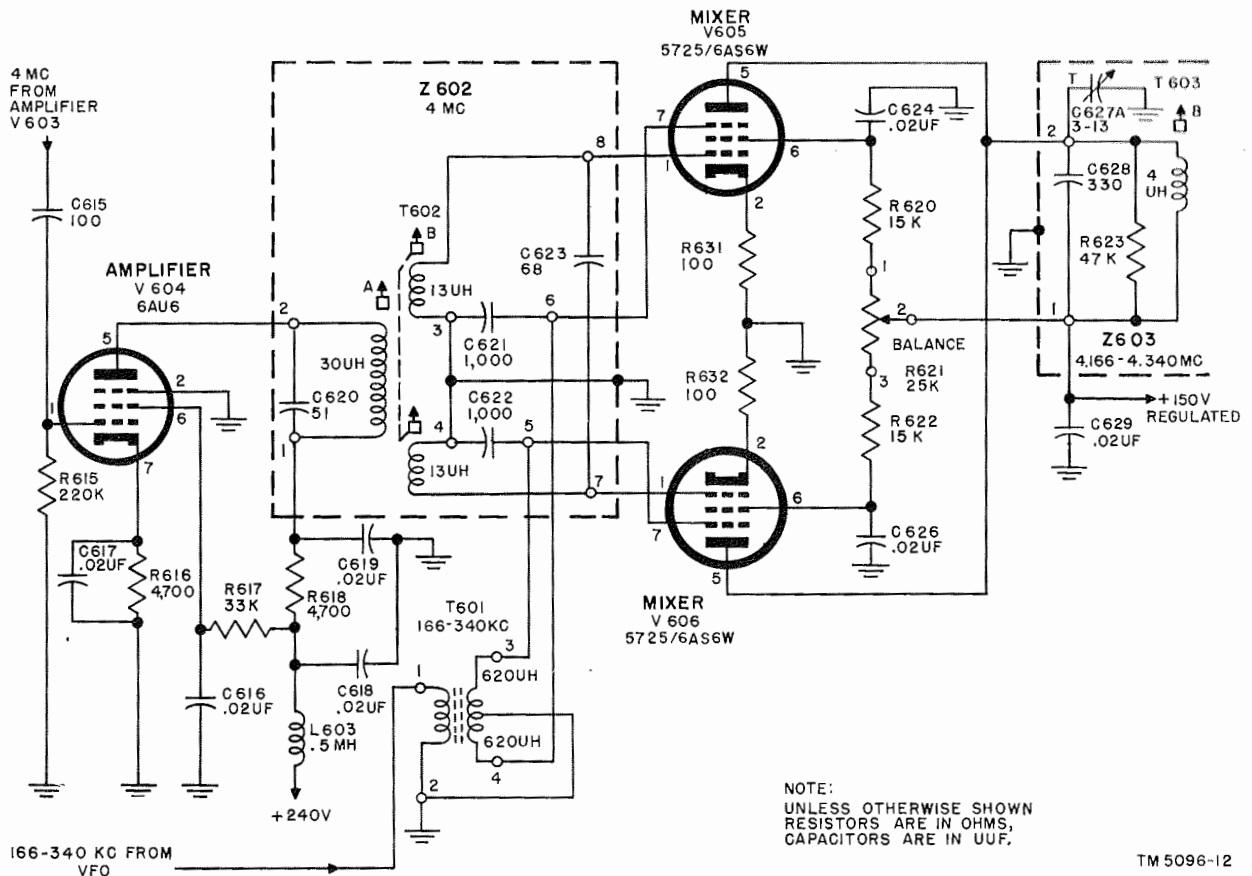
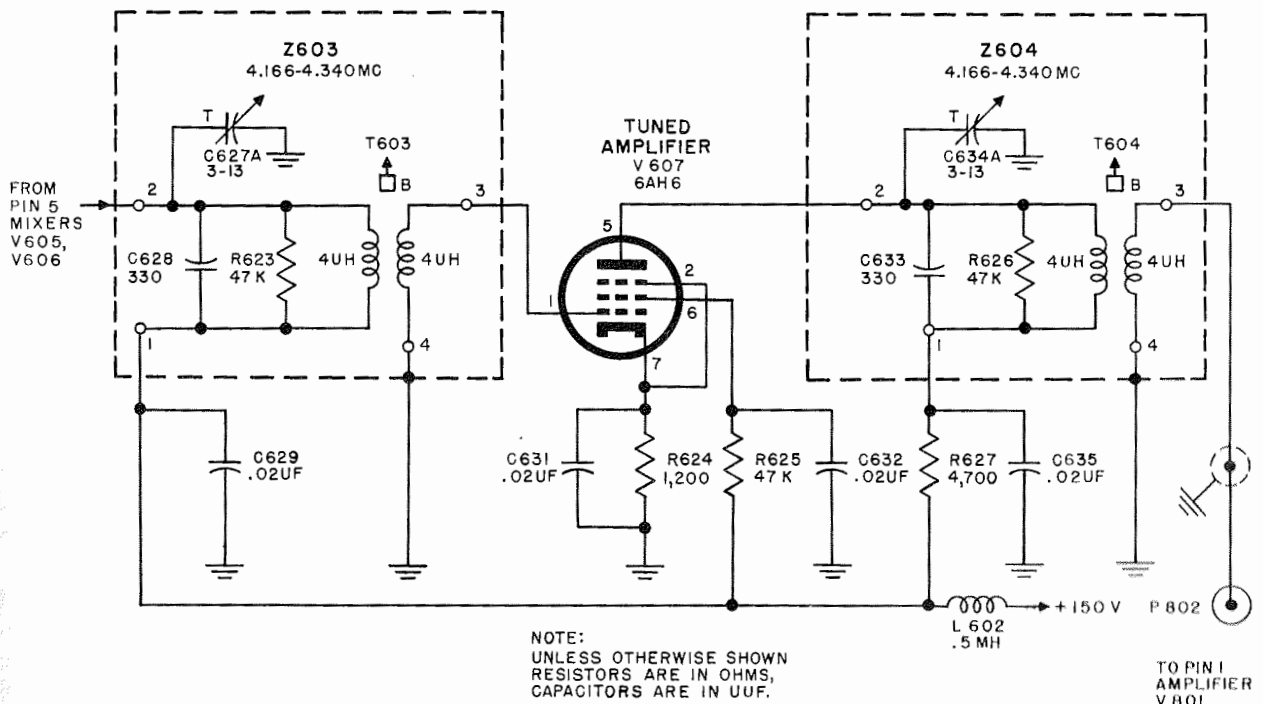

Figure 18. Balanced modulator circuit, amplifier and mixer, simplified schematic diagram.
Figure 19. Balanced modulator circuit, tuned amplifier, simplified schematic diagram.
(figs. 18 and 19)
a. Amplifier V604 (fig. 18). The 4.0-mc signal from the crystal oscillator is fed to the control grid of V604 through capacitor C615. After amplification, the output signal is taken off the plate and is fed through transformer T602 contained in network Z602 to the control grids of mixers V605 and V606. Resistor R615 is the grid return resistor. Cathode resistor R616 and capacitor C617 provide operating bias. Resistor R617 is the screen dropping resistor and capacitor C616 is the screen bypass. Resistor R618 and capacitor C619 form the plate decoupling network. Capacitor C618 is an additional bypass to ground; inductance L603 serves as an rf choke in the plate supply circuit. Fixed capacitor C620, across the primary coil of transformer T602, forms the tuned plate tank of V604. Permeability-tuned filter coupling network Z602 consists of capacitors C620, C621, C622, and C623 and transformer T602. When Z602 is aligned, it tunes in the range of 4.166 to 4.340 mc.
b. Mixers V605 and V606 (fig. 18).
- (1) Mixers V605 and V606 amplify and mix the fixed crystal and vfo oscillator signals. Fixed capacitor C623 and the secondaries of permeability-tuned transformer T602 form the tuned grid tanks for mixers V605 and V606. The 4.0-mc signal from amplifier V604 is fed to this tank circuit and to the control grids. Fixed capacitors C621, C622, and C623, tuning slugs, and the secondary of transformer T601 provide a tuned circuit for the vfo signal that is inductively coupled across T601. The vfo signal is fed to the suppressor grids of mixers V605 and V606. Each tube mixes the input frequencies, producing at the tube output the sum and difference frequencies. Because of their phase relationship, the original input frequencies cancel each other at the output of V605 and V606. The resultant beat frequencies, however, become additive and are applied to the next stage. Thus, mixers V605 and V606 operate their input in push-pull and their output in parallel.
- (2) Cathode bias is provided by R631 for V605 and R632 for V606 for easier balancing of the stages. The plates receive a common B+ supply (150 volts regulated) and voltage-dropping resistors R620 and R622 provide the proper screen grid potential. Variable resistor R621 (BALANCE control) maintains a balance between the outputs of V605 and V606. Capacitors C624 and C626 keep the screen grids at an rf ground potential. The plate tank network Z603, common to both V605 and V606, is composed of capacitor C628, loading resistor R623, and the permeability-tuned transformer T603. Fine tuning is provided by trimmer capacitor C627. Capacitor C629 is a plate bypass to ground. To insure passing the wanted frequencies, the plate tank tuned network Z603 is tuned to the low end of the 4.166- to 4.340-mc range (the high end is tuned in tuned amplifier V607). This tuned signal then is coupled across transformer T603 to the control grid of tuned amplifier V607.
c. Tuned Amplifier V607 (fig. 19). Because the tuned circuit of Z603 is tuned only to the low end of the 4.166- to 4.340-mc range, an additional tuned amplifier stage, V607, is provided. This stage uses the identical tuned plate network Z604 as the preceding mixers, but is tuned to the high end of the 4.166- to 4.340-mc range. Resistor R624 and capacitor C631 are the cathode-biasing resistor and bypass capacitor, respectively. Resistor R625 is the screen dropping resistor and capacitor C632, the screen bypass to ground. Resistor R627 and capacitor C635 form the plate decoupling network. Inductance L602 and capacitor C638, a bypass to ground, further filter the +150-volt regulated plate supply. The tuned 4.166- to 4.340-mc signal is coupled through capacitor C801 to band-pass amplifier stages V801 and V802.